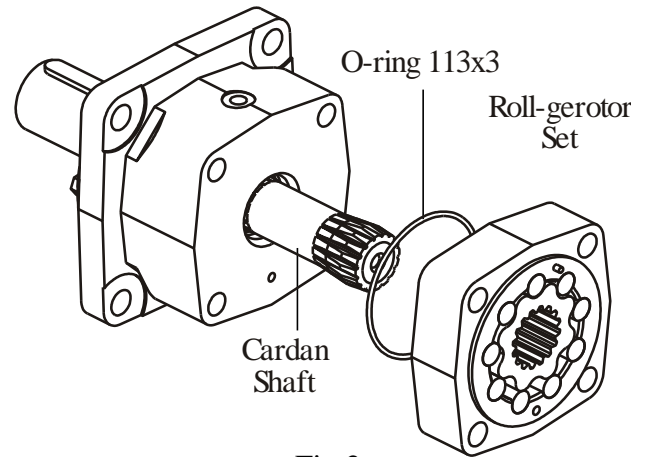

Fig.2
6. Remove O-ring 113x3 from roll-gerotor groove (see Figure 2).